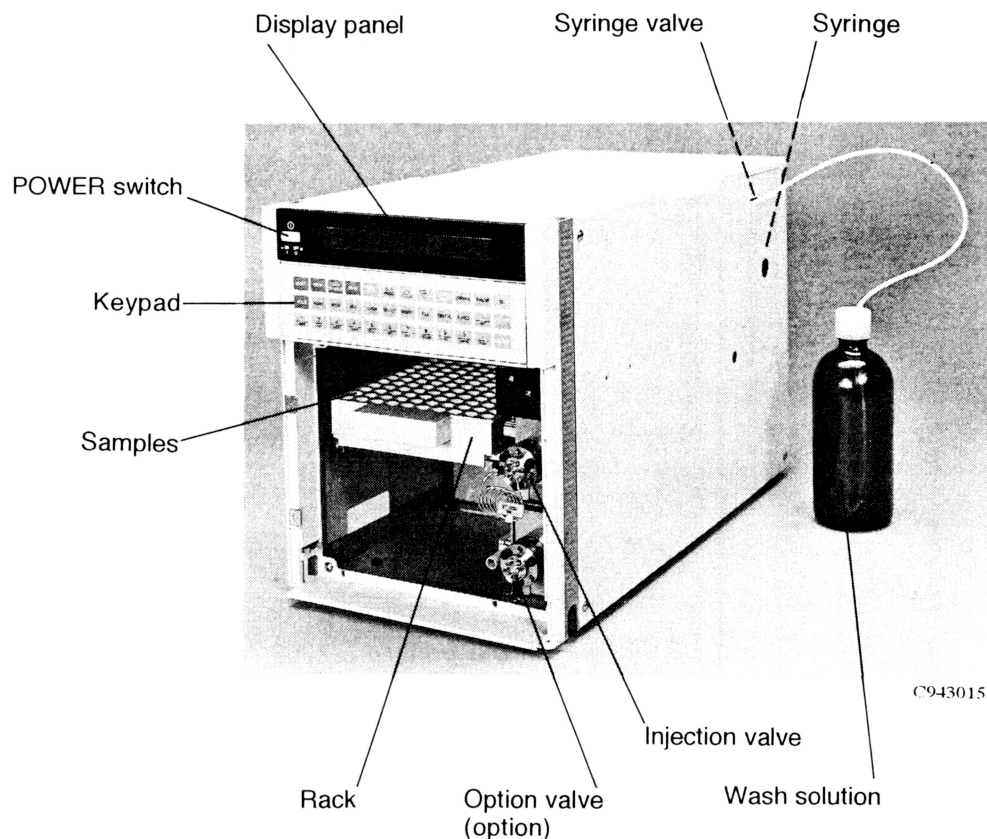

Figure 1-2 Configuration of the L-7250 Programmable Autosampler
- 1.2.1 Overall Design of the Unit** Figure 1-2 is a photograph of the L-7250 Programmable Autosampler. A chamber houses a rack to store the samples, the syringe, and a sampling arm. The sampling arm moves along the transverse axis (X), the longitudinal axis (Y), and the vertical axis (Z) to withdraw the desired sample and place it in the injection valve. The injection valve includes a sampling loop to inject samples into the mobile phase flow.